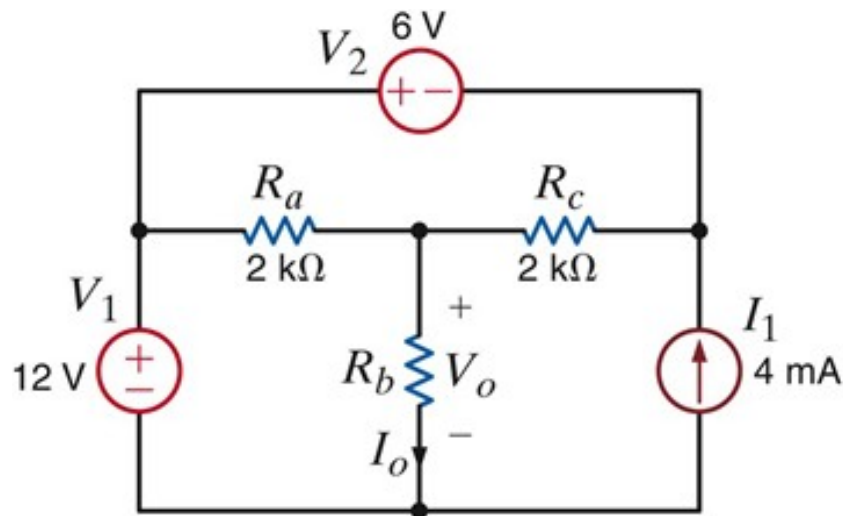

Figure 30: Circuit for Exercise 4
4. For the circuit of Fig. 30, use MultiSim to solve for the voltage  $V_o$  as  $R_b$  varies from  $250\ \Omega$  to  $3\ \text{k}\Omega$  in increments of  $25\ \Omega$ . Also solve for the power dissipated in  $R_b$  ( $P_o$ ) for each value of resistance. Plot  $V_o$  as a function of  $R_b$  and  $P_o$  as a function of  $R_b$ . You must make these plots by performing the parameter sweep outlined in Section 5 of this lab manual. Include both plots in your report and a screenshot of your MultiSim schematic.